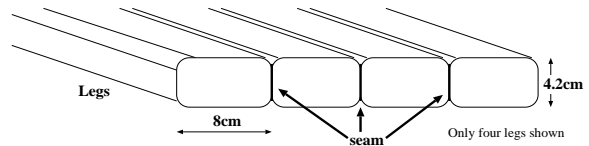

Figure 4: How to Sew the Tentacles together
*Are there any biologists among the kites? I am not sure, but Marty told me, that those circles are called "suction cups" whereas Anne believes that it is called "suckers".* You can now start and sew one leg to the other (see figure 4): Mark a distance of 8cm on the front and the back side of each tentacle. Sew one tentacle to the next one on the remaining 4.2cm. In order to clearly distinguish the different legs, it is advisable to use a thread with a different color than the color of the legs.
For the parts, that form the "edge" of the body, I did the same as with the curved profiles (see fig. 4). But this time, I sewed them to the back panel.